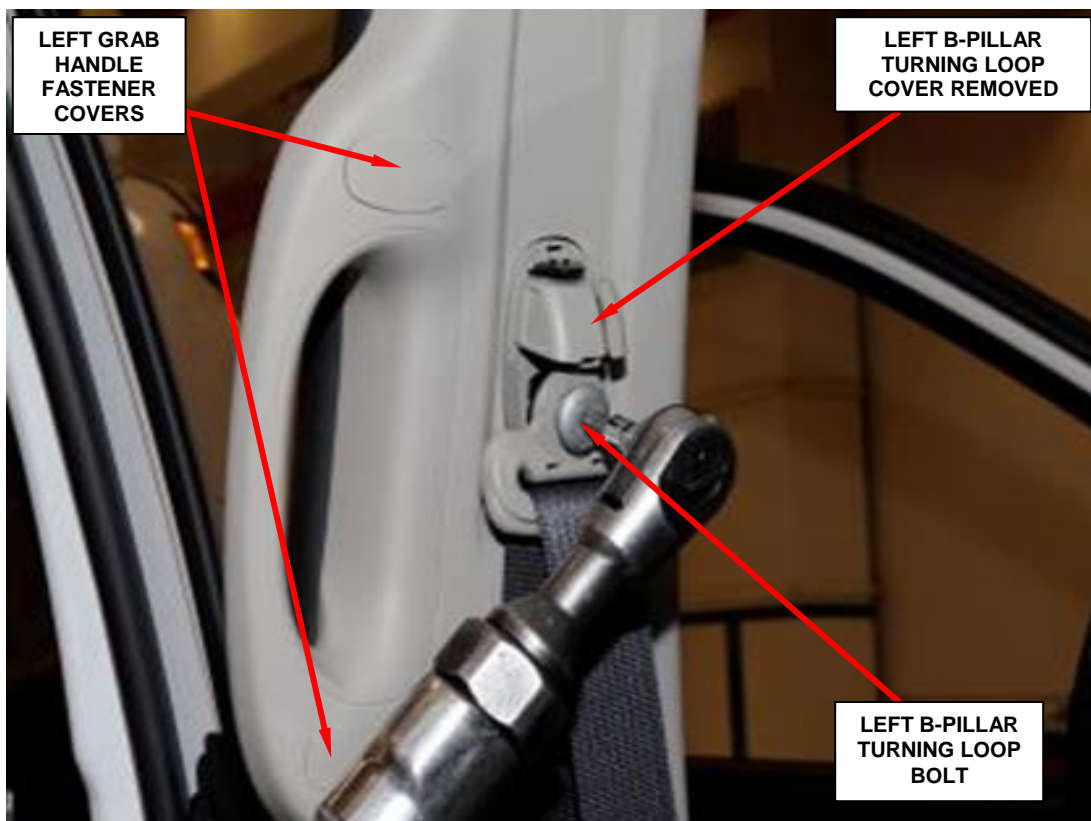

Figure 13 – B-Pillar Turning Loop
16. Separate the left B-pillar turning loop cover and remove the turning loop bolt (Figure 13).
17. Using a small flat-bladed tool, carefully open the two fastener covers located on the left grab handle (Figure 13).